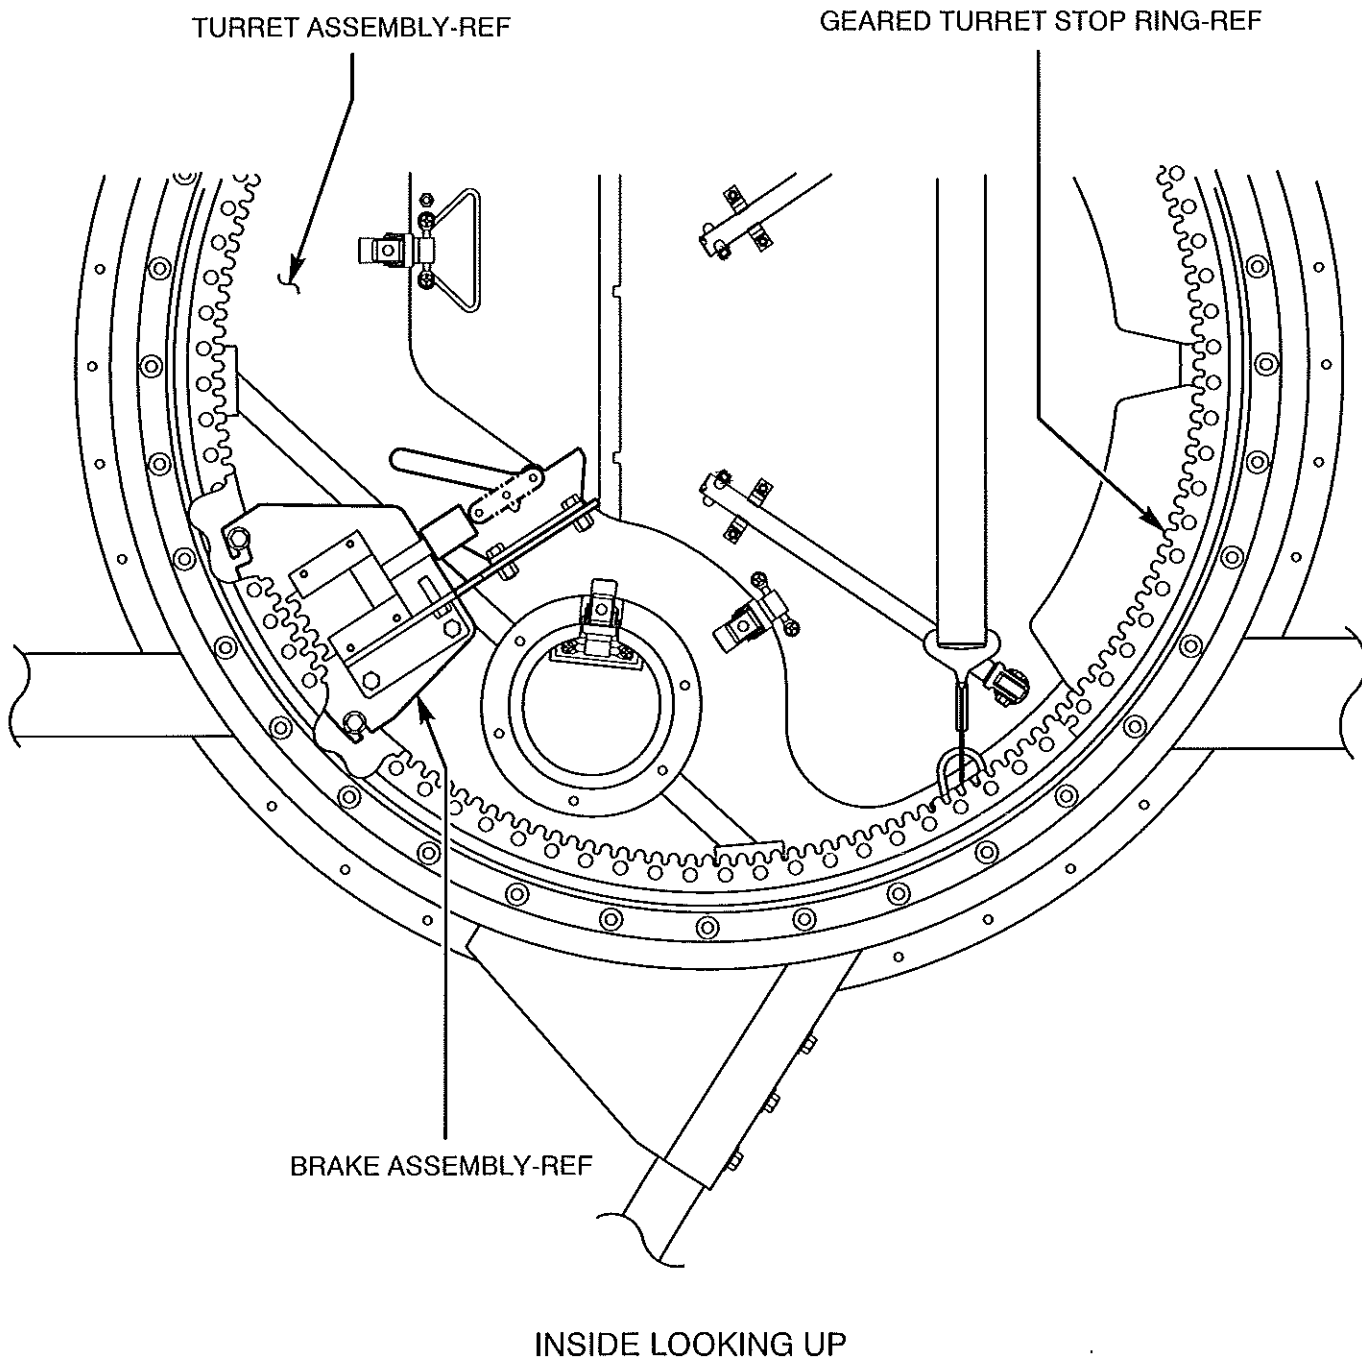

FIGURE 1
- 1. FROM INSIDE VEHICLE, LOOK UP AT TURRET ASSEMBLY AND DETERMINE IF A 4662415-002 GEARED TURRET STOP RING AND A 4662576-002 OR 1000545 BRAKE ASSEMBLY ARE INSTALLED AS SHOWN IN FIGURE 1.
- 2. IF VEHICLE CONFIGURATION MATCHES GEARED TURRET STOP RING AND BRAKE ASSEMBLY AS SHOWN IN FIGURE 1, CONTINUE TO STEP 3-2.